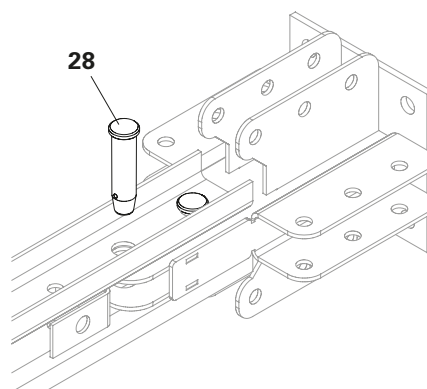

Fig. A1.05a
3. Fix the Prop Bases ATS (1) in the Steel Walers 262 (25) using 2x fitting pins Ø 32 (28) respectively and secure with cotter pins 5/2 (29). (Fig. A1.05a + A1.05b)